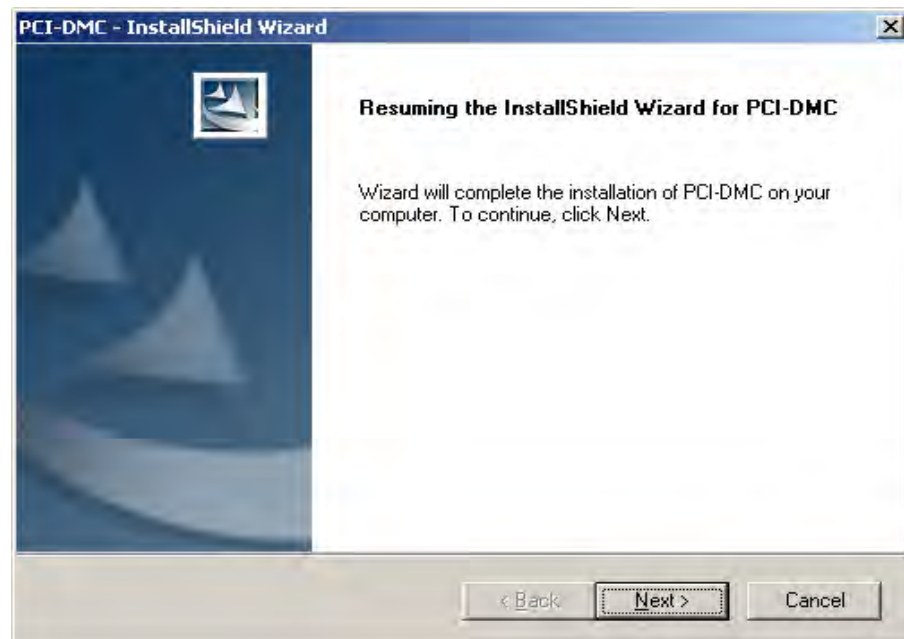

Figure 2.13
Step 1: Open the CD and in the DISK1\_32bit\_XXXX folder select and run "setup.exe" as shown in Figure 2.13.